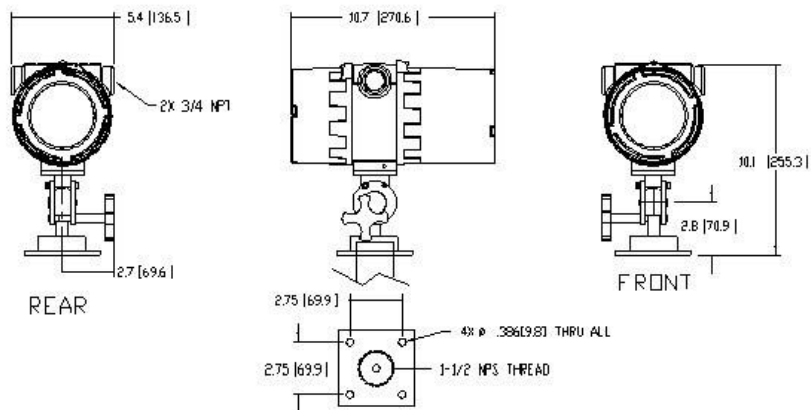

Figure 2 – Sensor Dimensions
The Flare Monitor (FM) is a dual-wavelength infrared optical sensor (see figure 2) that measures the ratio of carbon to available oxygen within the hot flame. This measured parameter is associated with combustion efficiency and smoking for all hydro-carbon flames. The FM assures maximum destruction of hazardous VOCs and smoke-free operation by controlling the flow of air or steam to just below the incipient smoke point for optimum combustion efficiency. Unlike other optical devices, the Williamson model FM Flare Monitor does not require on-site calibration, is unaffected by flame size and position, is unaffected by steam flow, and is controlled to the same setpoint value regardless of vent gas composition, flow rate, or flare configuration. This combination of
The Flare Monitor swivel base is typically mounted to a 1-1/2" pipe, or, using U-bolts, to a hand rail, or to a base plate located at or near ground level allowing for convenient access. The dimensions are shown in Figure 2. Some recommended guidelines for mounting the Flare Monitor are as follows: